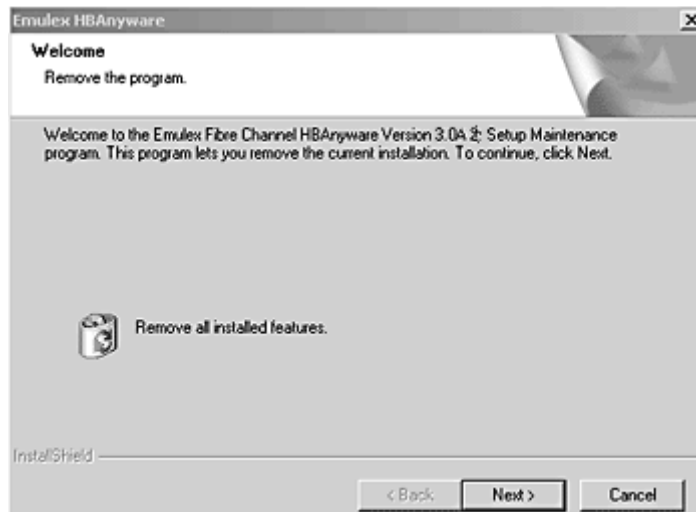

Figure 12: Emulex HBAware Welcome Window
2. Select the Emulex Fibre Channel item and click **Change/Remove**. A window similar to Figure 12 appears: